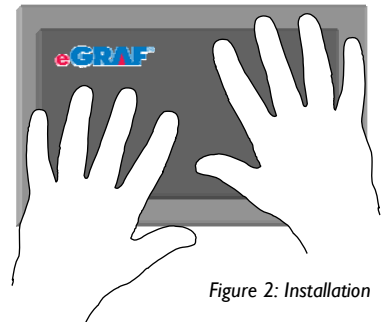

Figure 2: Installation
2. Apply the SPREADERSHIELD™ material to the surface and press by hand, with enough pressure for the material to experience 100kPa/14.5 psi/1 bar. Rough or rigid surfaces may require more pressure (Figure 2).